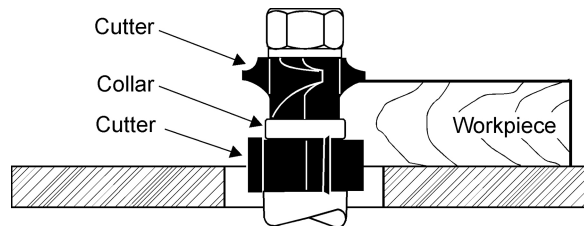

Figure 38
3. Using the collar between the two cutters has the advantages and disadvantages of the first two procedures, and is frequently used where both edges of the work are to be molded, Figure 38.